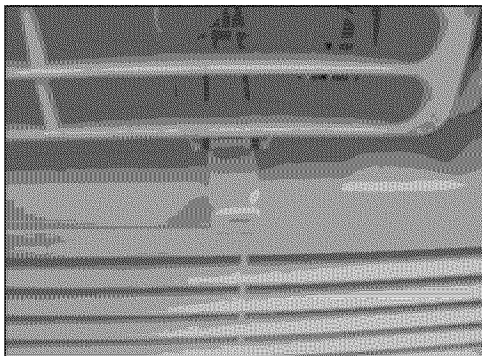

Figure 2 (VENT OPEN)
2. Draw fresh air into the room -- Vent Open (see Fig. 2)